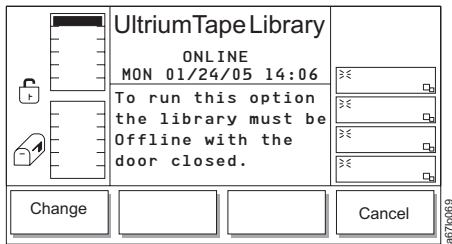

Figure 4-151. Library Submenu
2. Press the button below the **Library** softkey. The Library Submenu displays (see Figure 4-151).